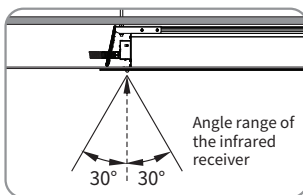

Figure 12
3. Receiver effective angle: $\pm 30^\circ$ from the receiver axis (Figures 12–13).